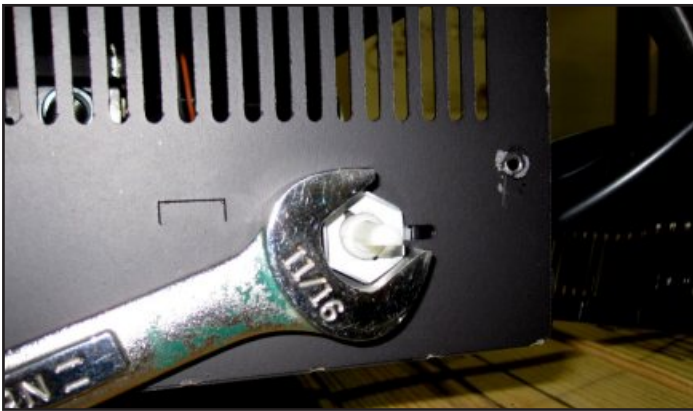
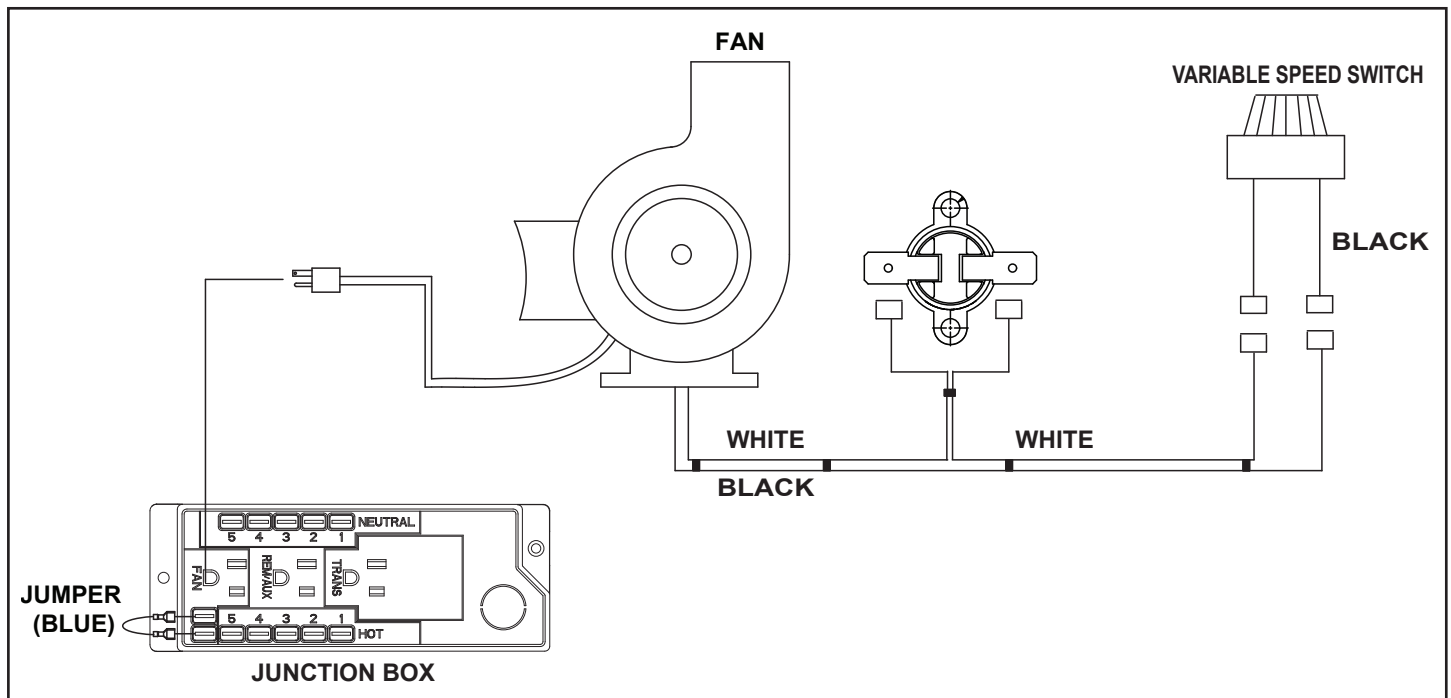

Figure 8.8 - Mount Speed Control Using Pal Nut
Figure 8.9 - Fan Wiring Diagram
- Install the speed control (rheostat). The speed control mounts to the right rear corner of the component tray. Insert the stem of the speed control through the hole located on the right side of the cover. Secure with the pal nut using an 11/16 in. (17.5 mm) wrench See Figure 8.8. Attach the black and white wires routed under the appliance indicated in Figure 8.9 (wiring diagram), to the variable speed switch wires. Use the blue jumper wire provided in the appliance component bag to make the connection on junction box terminals as shown in Figure 8.9. Push the speed control knob onto the stem. Secure any extra wire up and out of the way using the zip tie provided.
- Plug the fan into the receptacle labeled "FAN" on the junction box. See Figure 8.9. The blower will not run until the appliance has heated up enough to activate the snap disc. This can take up to 15 minutes depending on the temperature of the room. Likewise, the blower will not automatically turn off until the appliance has cooled off enough to turn off the snap disc.